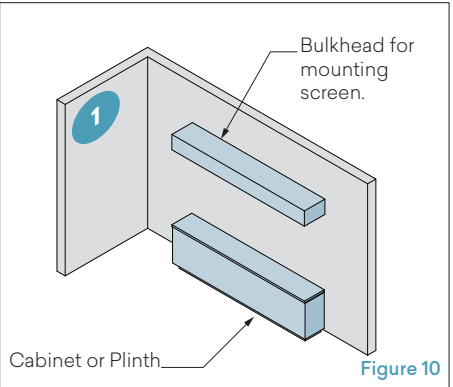

Figure 10
1. Construct or purchase appropriate items to support the MX system at the ideal listening axis height. A bulkhead or bracket will also be required for the screen to mount to. (Figure 10)